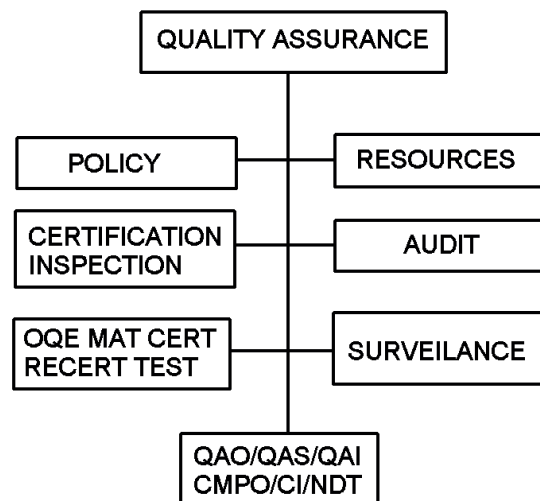

Figure 6-19.—Quality Assurance diagram.
Quality Assurance (QA) (see fig. 6-19) includes the following major elements:
1. Providing proper documentation of Objective Quality Evidence (OQE) to meet Quality Assurance (QA) requirements.